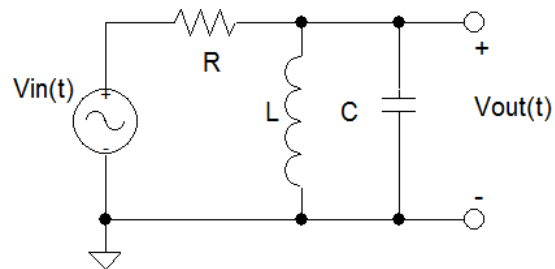

Figure 17 – RLC circuit.
1. Derive the response function $\{ V_{out}(j\omega) / V_{in}(j\omega) \}$ for the band-pass RLC circuit in Fig. 17. Using (18) through (20) find ω_0 , BW, and Q for $R=1k\Omega$, $L=1mH$, and $C=1\mu F$.
- 2 Using Multisim, build the circuit in Fig. 17 and measure and take a screenshot of the Bode magnitude plot. Use the cursor to measure ω_2 and ω_1 . Determine the bandwidth of this band pass filter.
- Derive the response function $\{ V_{out}(j\omega) / V_{in}(j\omega) \}$ for the band-pass RLC circuit in Fig. 17 (and the same values of for $R=1k\Omega$, $L=1mH$, and $C=1\mu F$ as in the band-pass case, **but with the output across the resistor**).